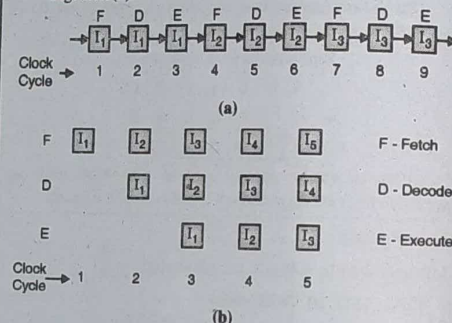

Fig. 1.7.1 : Pipelined execution of three instructions
- Normally, on a non-pipelined processor, nine clock cycles are required for fetch, decode and execute cycles for the three instructions as shown in Fig. 1.7.1(a).
- But, on a pipelined processor, the fetch, decode and execute operation are performed in parallel, only five clock cycles are required to execute the same three instructions as shown Fig. 1.7.1(b).
- During the clock cycle 5 we have  $I_3$  completing,  $I_4$  being decoded and  $I_5$  being fetched as shown in Fig. 1.7.1(b).
- In this way, 8086 perform fetch, decode and execute operation in parallel i.e. in single clock cycle as shown in Fig. 1.7.1(b).